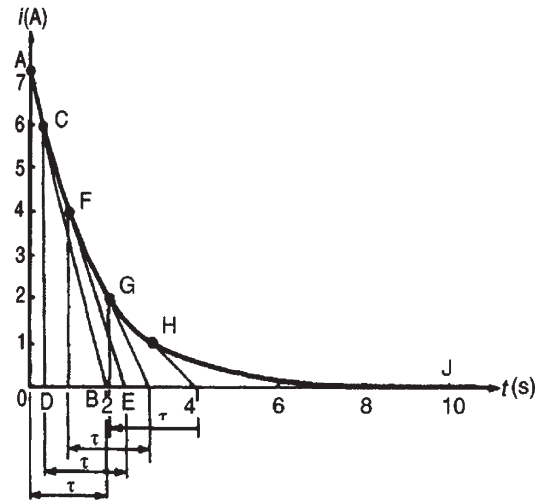

Figure 18.14
- With reference to Fig. 18.14, the initial slope is obtained by making  $OB$  equal to 1 time constant, (i.e. 2 s), and joining  $AB$ .